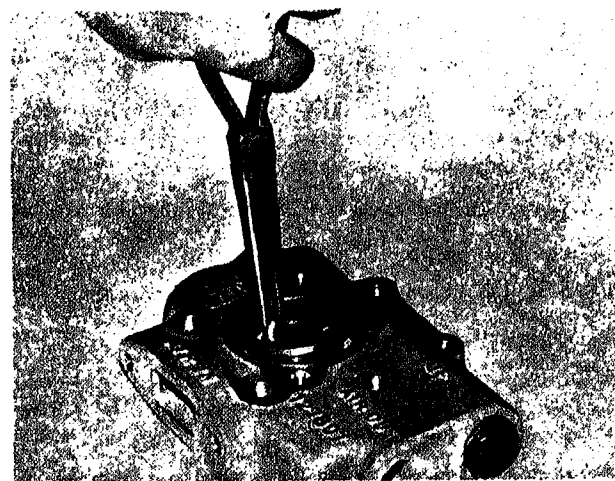

Fig. 12-2-2. Remove intake valve seat
8. Lift intake valve seat from cylinder head. Fig. 12-2-2. Turn with large screwdriver to loosen.